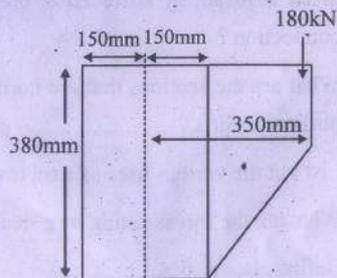

Figure.1
3. A bracket is welded to a stanchion by filler welds having a throat thickness of 9mm and a load of 180 kN is applied in the plane of the bracket, as shown in the figure 1. The weld extends round three sides and has the given dimensions. Determine the maximum stress in the throat of the weld. 15